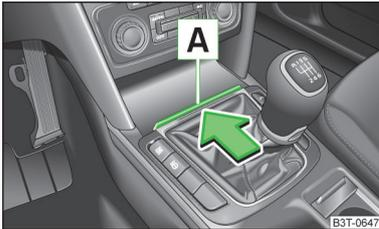

Fig. 82
► Press on the edge of the roof **A** » Fig. 82 in the direction of the arrow.
- Open the ashtray » Fig. 82 on page 90.